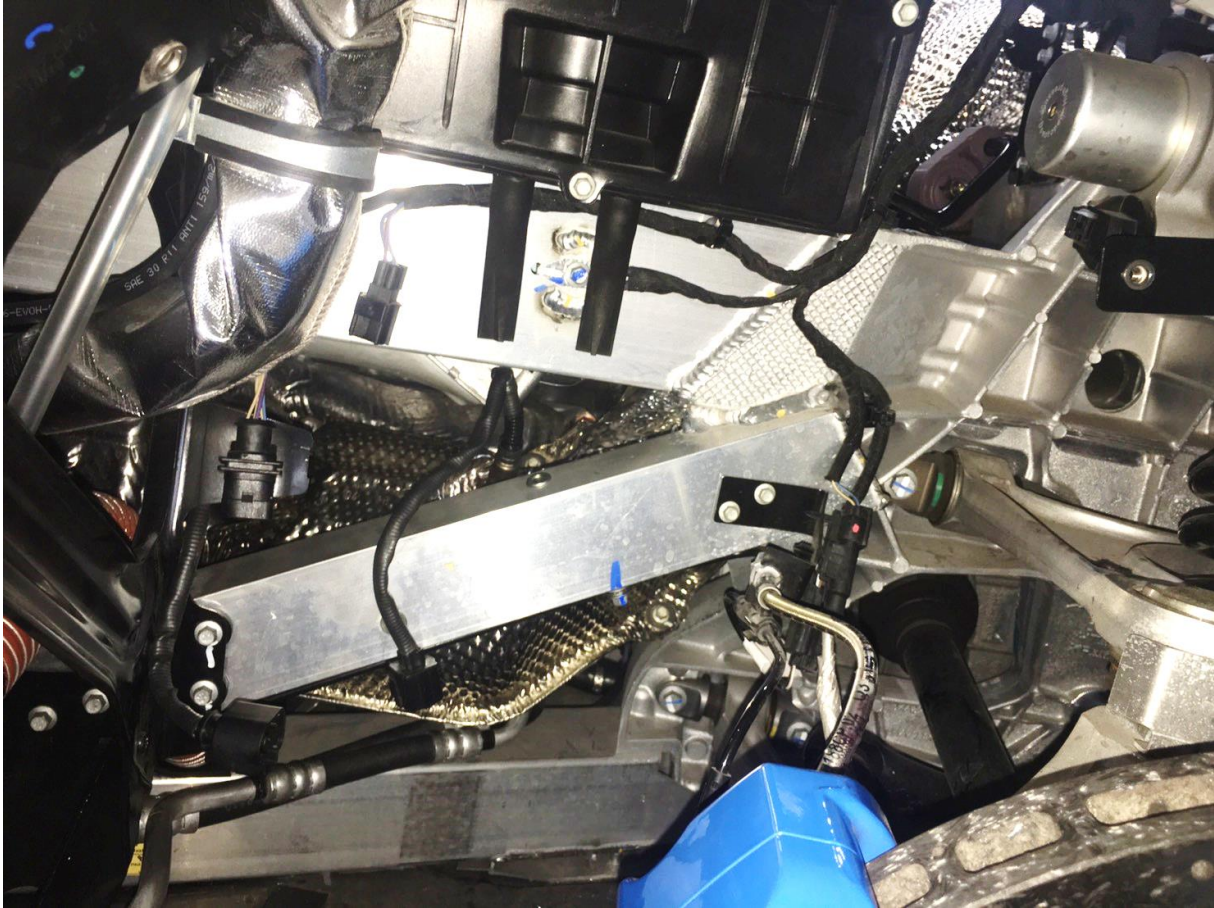

Fig. 12
2. Install the iPE cat pipe into position, and lock the front of the heat protector. (Fig 12)